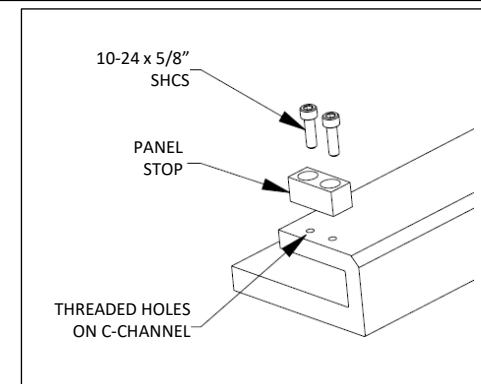

Fig. D1 – install panel stops
1. Install panel stop blocks on rear ends of c-channels, see Fig. D1, found in hardware pack #62946.